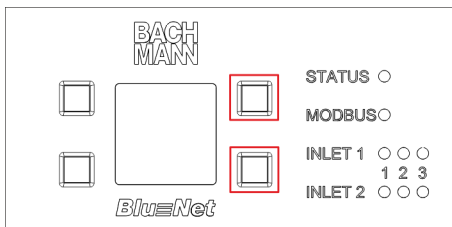

Fig. 83: Display with control buttons
1. ➔ Press and hold the two buttons to the right of the display (Fig. 83/red marking).
4. ➔ Release the two buttons to the right of the display (Fig. 83/red marking).